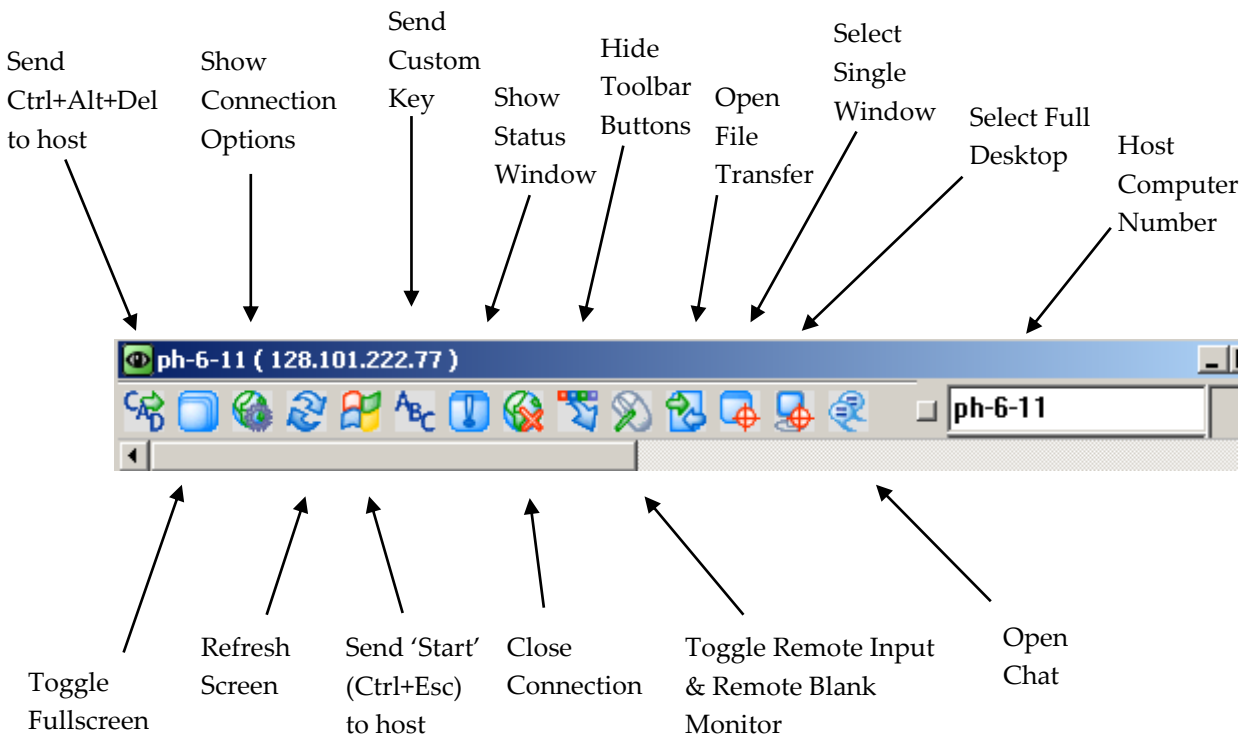

Figure 3. The Ultr@ VNC viewer toolbar.
If you want to change connection options, click the *Options* button. Another pop-up window will appear; see Figure 3. *Auto select best settings* is the default.
- *Show Connection Options* will display the same pop-up window that is available from the Options button of the initial Connection window (Figure 3).